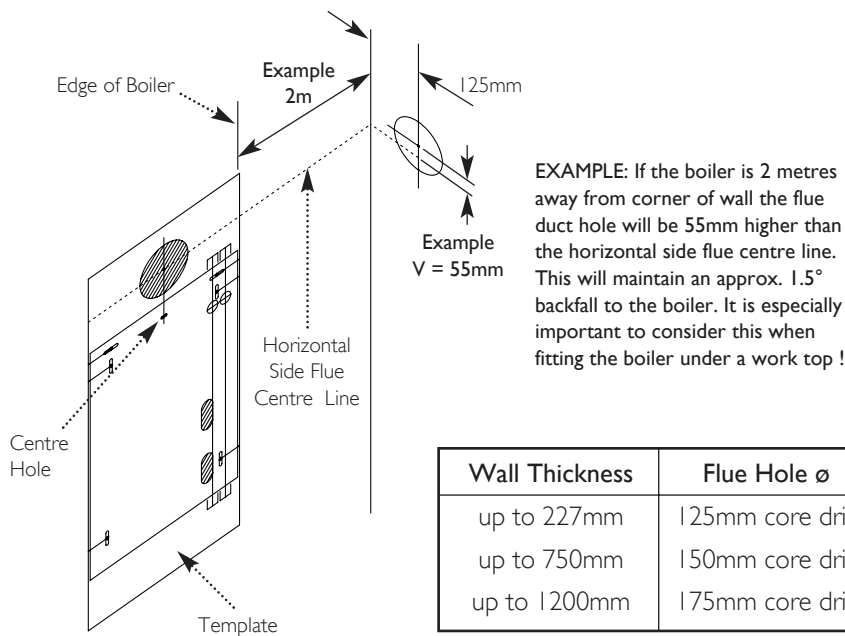
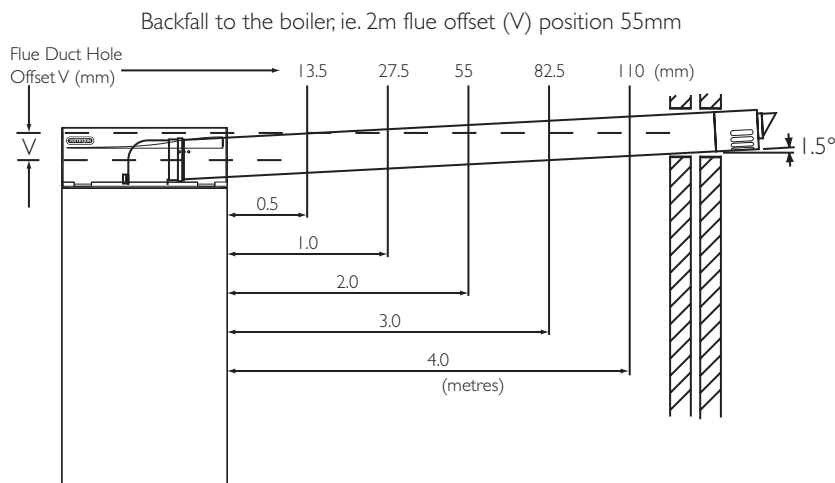

Fig. 20
Fig. 21
For side exit: project the horizontal side flue centre line into the corner of the room and along the wall to where the flue hole will be drilled. (Fig. 20). The diagram (Fig. 21) shows the dimensions required to ensure any horizontal flue is installed with the correct fall to the boiler. Mark the offset (V) dimension and if required, mark the position of the gas, water and condensate pipes. Remove the template.
4. Cut the hole for the flue (minimum diameter 125mm, see table (Fig. 20) for wall thicknesses and flue hole diameters).